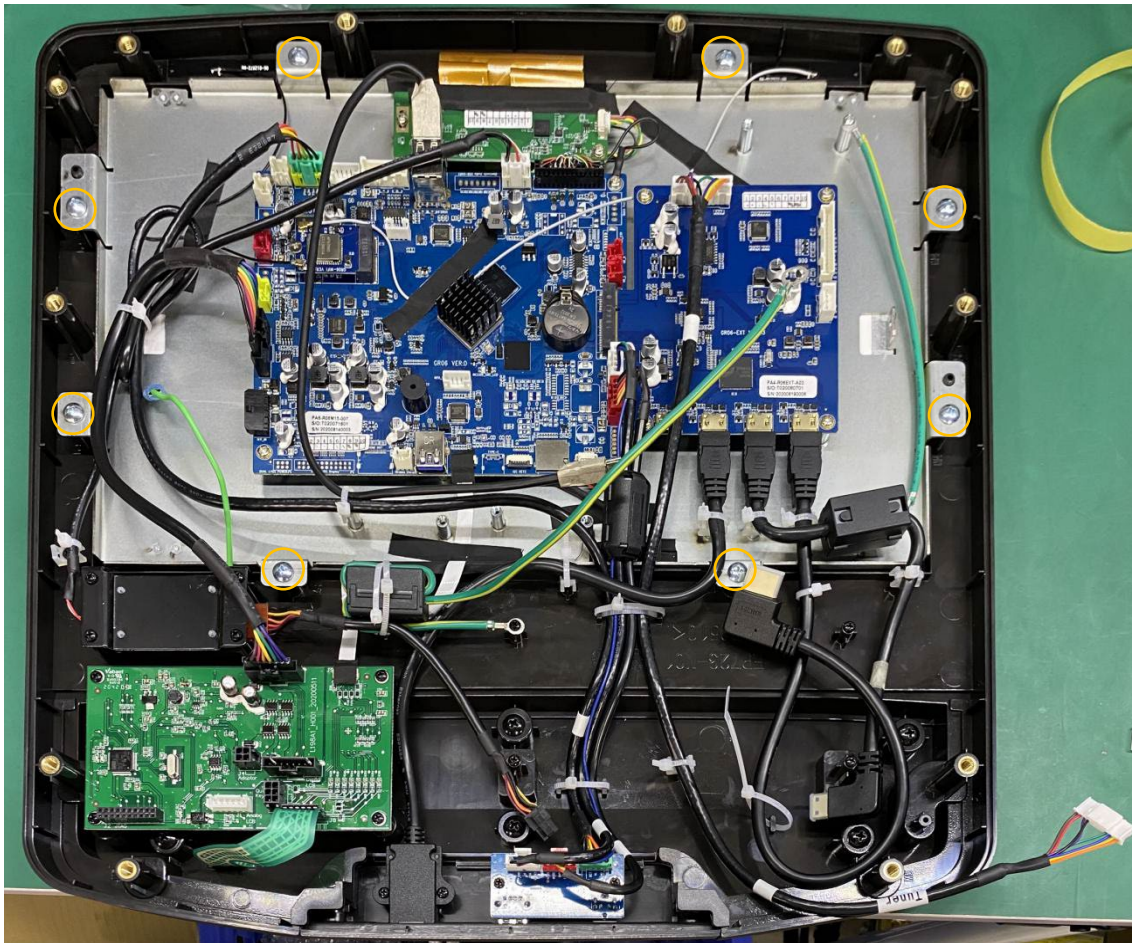

Figure 1
3. Use a Phillips screwdriver to remove eight screws (Fig. 1).